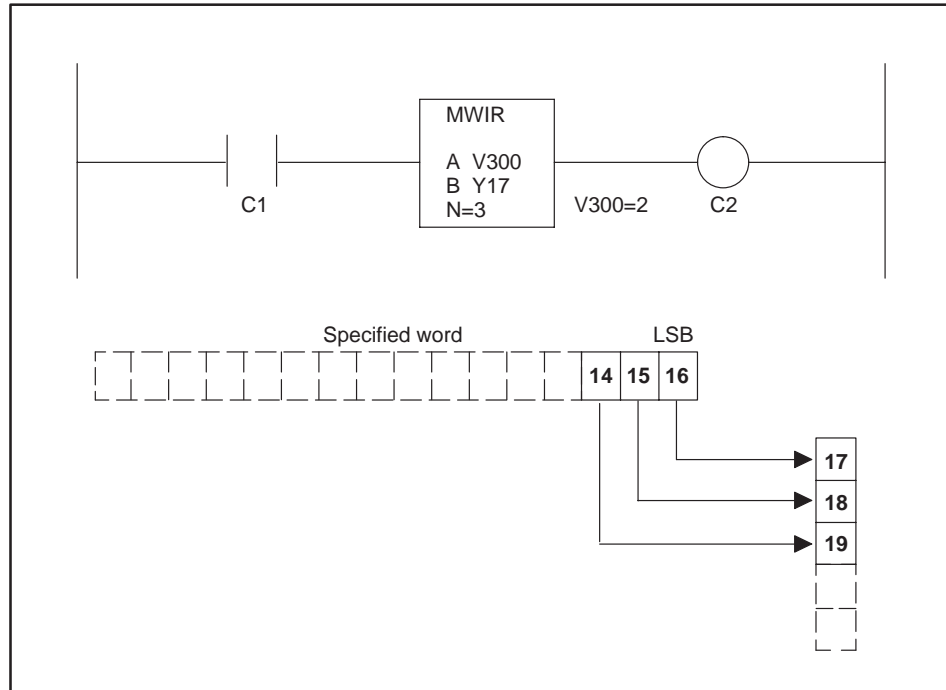

Figure 3-9 Identifying the Data Being Transferred
- The data identification outputs Y19 – Y17 are set according to the data being transferred. These are decoded by the module in order to distinguish the type of data being loaded (see Figure 3-9).